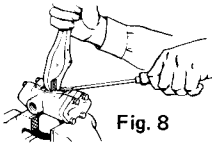
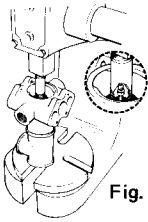

Fig. 8
Fig. 9
1. Remove **GREASE FITTING** from **CAM BEARING**. Grease fitting is pressed in. Hold fitting with vise-grip pliers—put 12" screwdriver under pliers and pry fitting straight out. (Fig. 8)
2. Remove outer **RETAINER RING** at the drive end with tool (C).
3. Place pump in press—main bearing housing down—resting in a 3" x 5½" pipe. Place ½" x 3" pipe nipple on cam bearing, and press out entire bearing assembly. (Fig. 9)